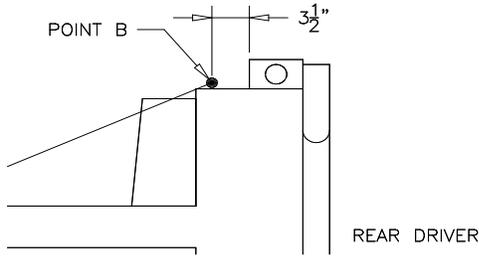
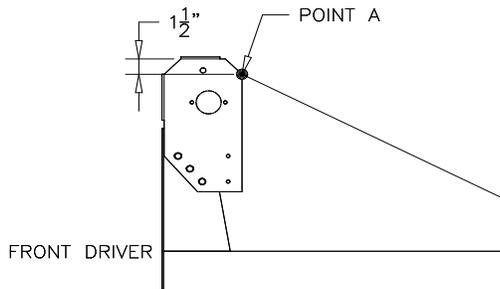
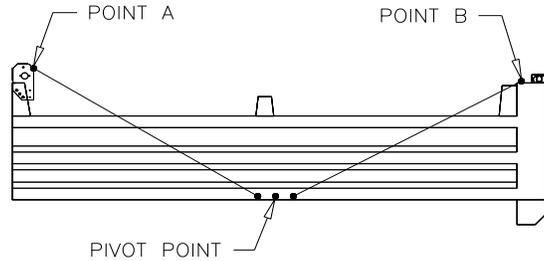

Figure 9
Figure 8
Figure 10
**Procedure:** Slide the 40X24 sprocket (P) and 1X hub on the rolltube end (see Figure 8). Loosen the 3/4" bolt slightly so you can adjust the angle of the chain guard. Place the #40 roller chain (Q) on the 40X24 sprocket (P) (see Figure 9). Hang the bottom crank (R) from the #40 chain. Apply a downward force on the bottom crank (R) to stretch out the chain. Adjust the angle of the chain guard so the chain clears. Mark the slots of the bottom crank in the lower dump body. Tighten the 3/4" bolt with the chain guard is properly positioned. Using a 11/32" drill bit, drill four holes through the right sides of the bracket slots. Fasten the bottom crank to the box with the 3/8"x1-1/4" self threading bolts (S) and 3/8" flat washers provided (see Figure 7).
Measure from Point A (see Figure 8) to a point on the lower inside rib of the box that is close to the pivot point (see Figure 10). Mark this point and record the distance as X. Using distance X, measure from Point B (see Figure 9) to a point on the lower inside rib of the box (see Figure 10). Mark this point.
Divide the distance between the first and second mark by two and mark this point as the pivot point (see Figure 10).
Measure the distance from Point A (Figure 8) to the center of the 3/4" pin on the pivot arm bracket (T). Record this as "Distance C". Lay the bottom pivot arm on the ground with the mounting flat on the top side of the tubing. Place one of the top pivot arm on the bottom pivot arm so the remaining cast elbow is in line with it. Have the 1" pipe sticking up. Slide the top pivot arm along the bottom arm until the distance from the center of the 1" pipe to the center of the mounting hole is the same as the Distance C.
Slide the rear pivot arm crossmember (F) through the rear tarp pocket. Position the rear pivot arm crossmember at Point B (see Figure 9).
**Note:** The 1"OD. pipe welded to the top pivot arm (G) may have to be shortened.
Adjust the rear pivot arm crossmember (F) and the pivot arm brackets (N) so they are at Point B (see Figure 9).